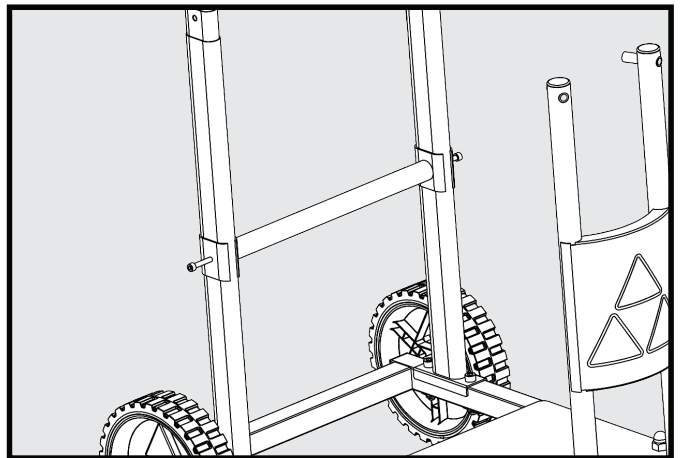

FIGURE 5
3. Insert M6 hex socket head screw (26) through rear base support hole and thread into cross support (Fig 5).